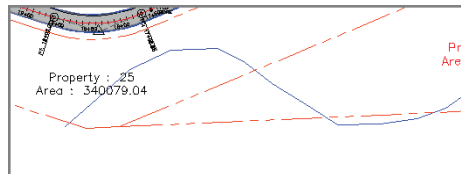

FIGURE 12.17 The western end of the parcel has been simplified.
10. Press Esc twice to end the previous command, and then click the parcel line again to reveal its grips. Click the westernmost grip, and snap it to the center of the red circle. The parcel geometry has been improved (see Figure 12.17).